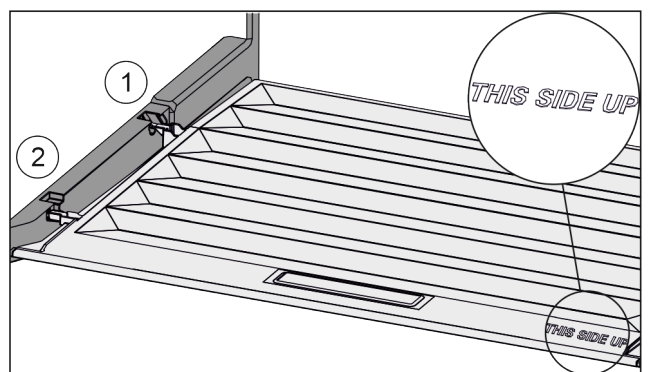

Fig. 28
- ▶ Insert the lip of the cover over the opening of the rear bracket *Fig. 28 (1)* and click into place *Fig. 28 (2)*.